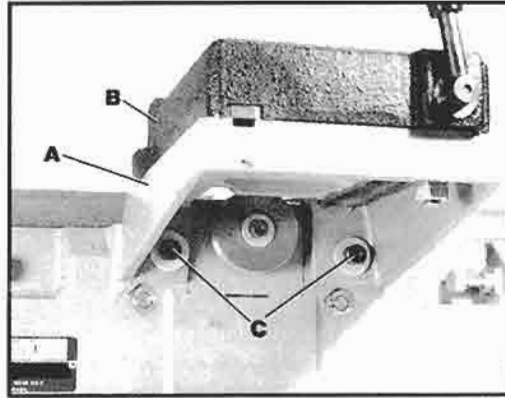
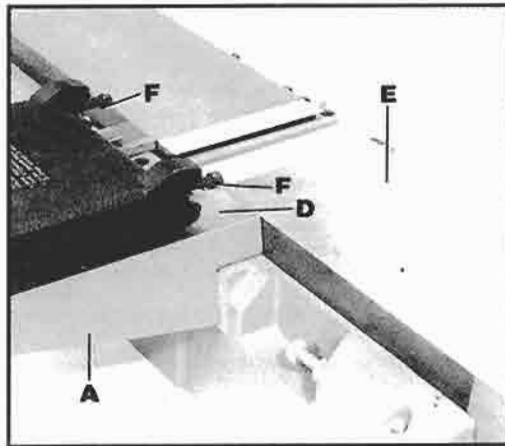

Fig. 5
Fig. 6
1. Assemble the fence carriage (A) Fig. 5, and fence sliding bracket (B) to the jointer base using the two 1 – 3 / 16" long socket head cap screws and washers (C). **NOTE:** The top surface (D) Fig. 6, of the fence carriage (A) must be level with the top surface of the outfeed table (E), to enable the fence to slide easily.
2. Remove the two screws (F) Fig. 6.